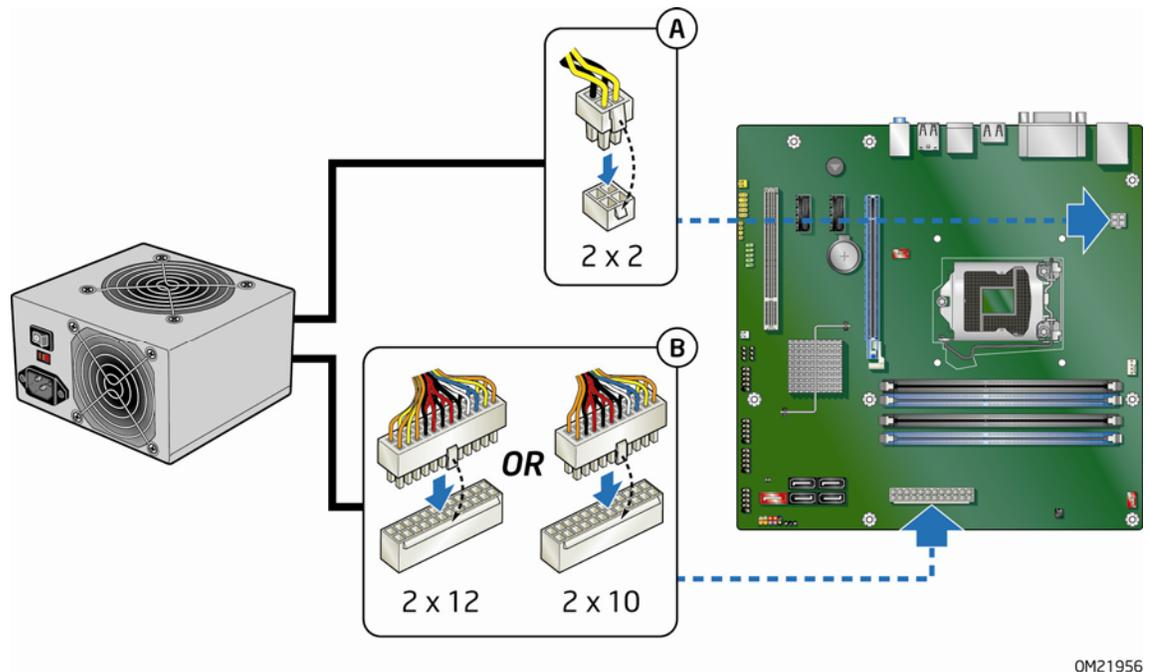

Figure 26. Connecting Power Supply Cables
Failure to use an appropriate power supply and/or not connecting the 12 V power connector (Figure 26, A) to the Desktop Board may result in damage to the board or the system may not function properly.
Figure 26 shows the location of the power connectors. The 2 x 12 pin main power connector (Figure 26, B) is backwards compatible with ATX12V power supplies with 2 x 10 connectors.
2. Connect the 12 V processor core voltage power supply cable to the 2 x 2 pin connector (Figure 26, A).
3. Connect the main power supply cable to the 2 x 12 pin connector (Figure 26, B).